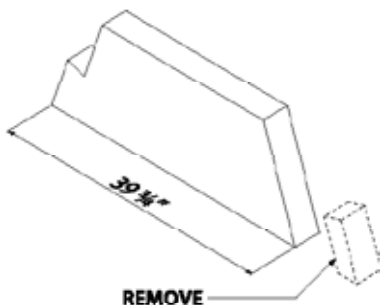

FIGURE 39
**Step 16:** Continue building the MAGNUM model 60 fireplace smoke dome by cutting two of the smoke dome large pieces, part 13, to a bottom length dimension of  $39\frac{3}{4}$ ". The slope angle of the cut should match the slope angle of the end being cut. (Figure 39)